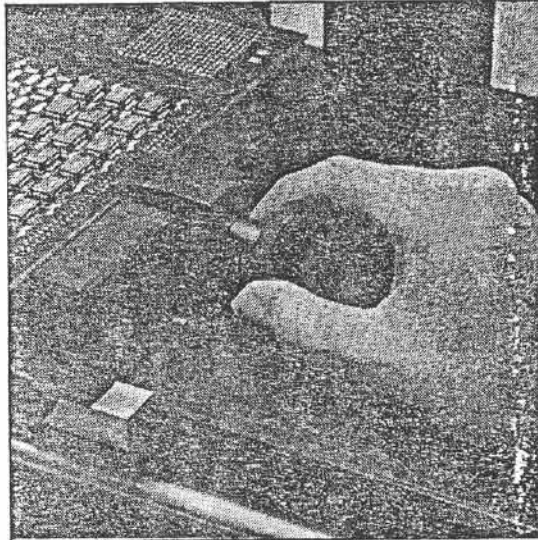

FIGURE 7. COMPONENT POSITIONING
- clamp circuit board to Work Platform, position component under Nozzle, refer to Figure 7,
- clamp circuit board to Work Platform, position circuit board component to be removed directly under Nozzle, refer to Figure 7,